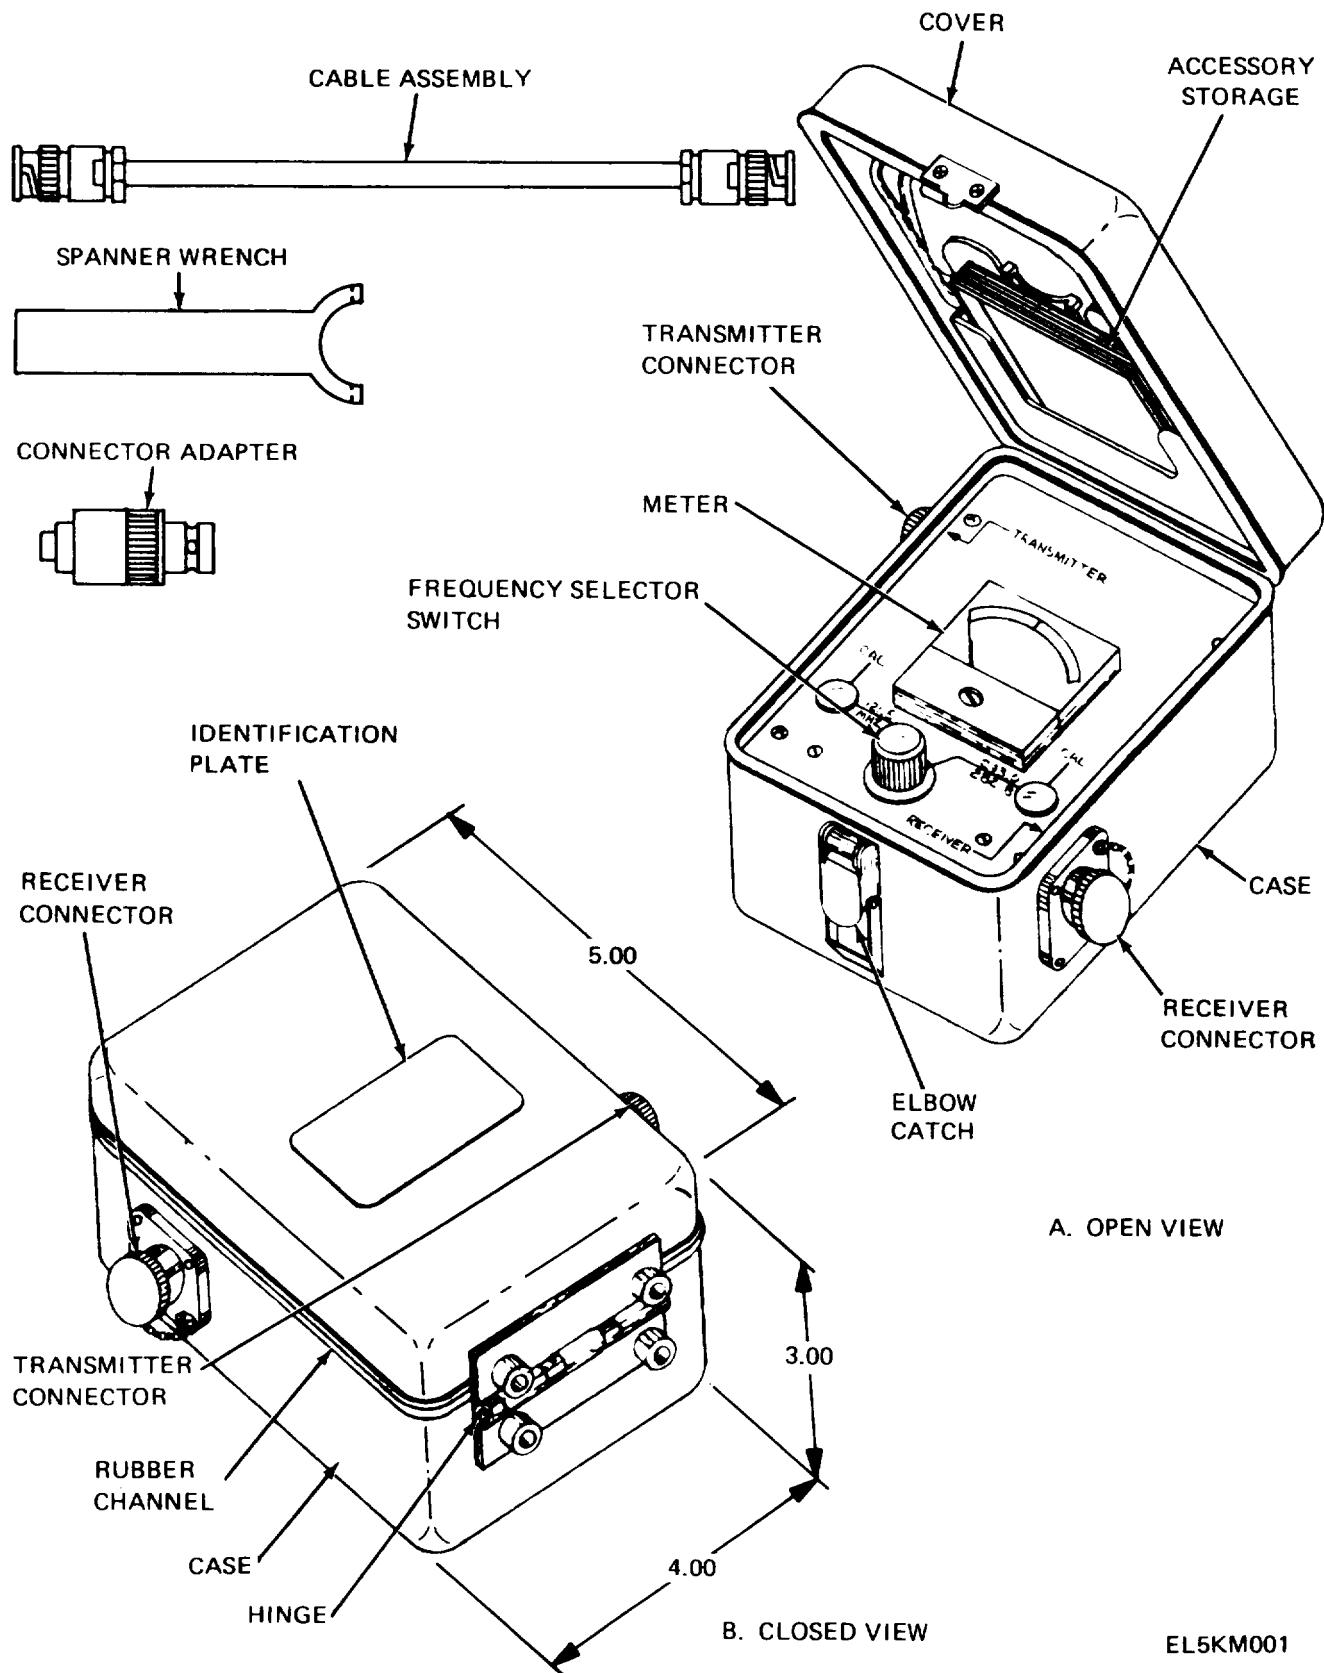

Figure 1-1. Radio Test Set AN/PRM-32A.
a. This manual covers operation, organizational, and general support maintenance of Radio Test Set AN/PRM-32A (fig. 1-1). The manual includes